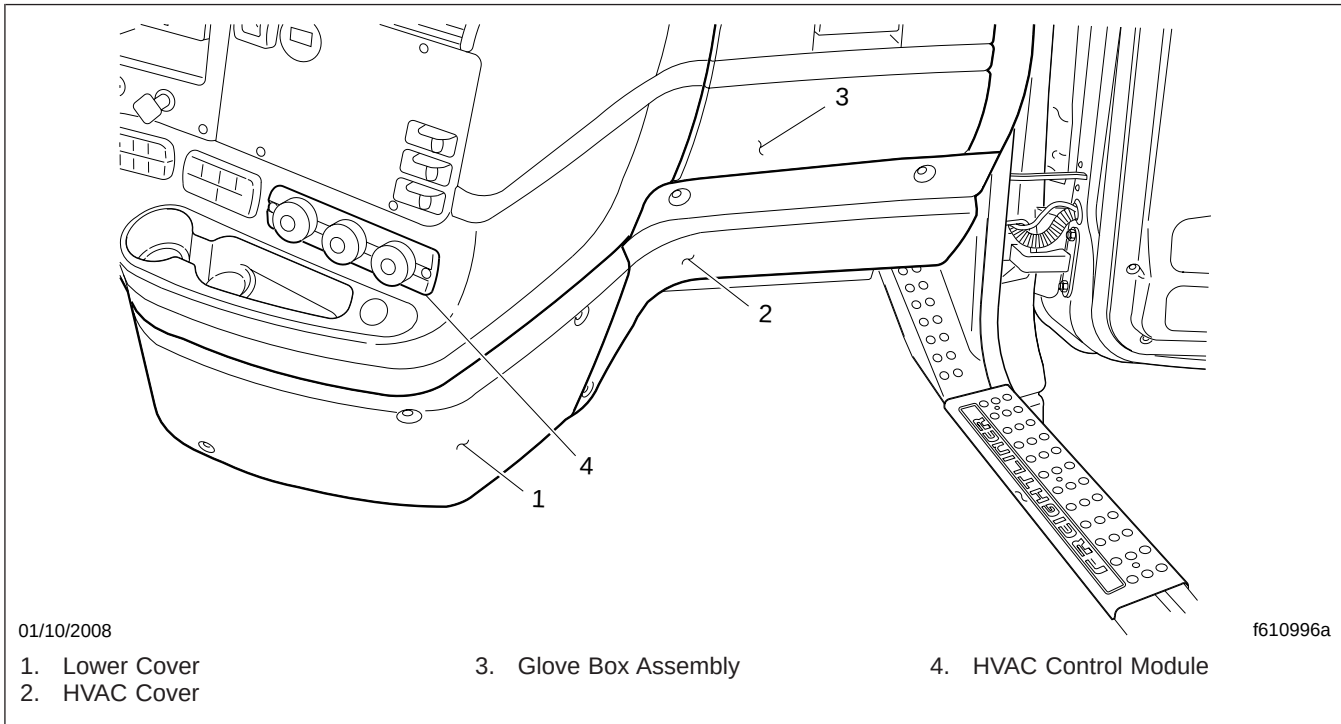

Fig. 2, Access Panels
3. Remove the dash access panels and supports listed below. See Fig. 2 and Fig. 3. See Section 60.06 for instructions.